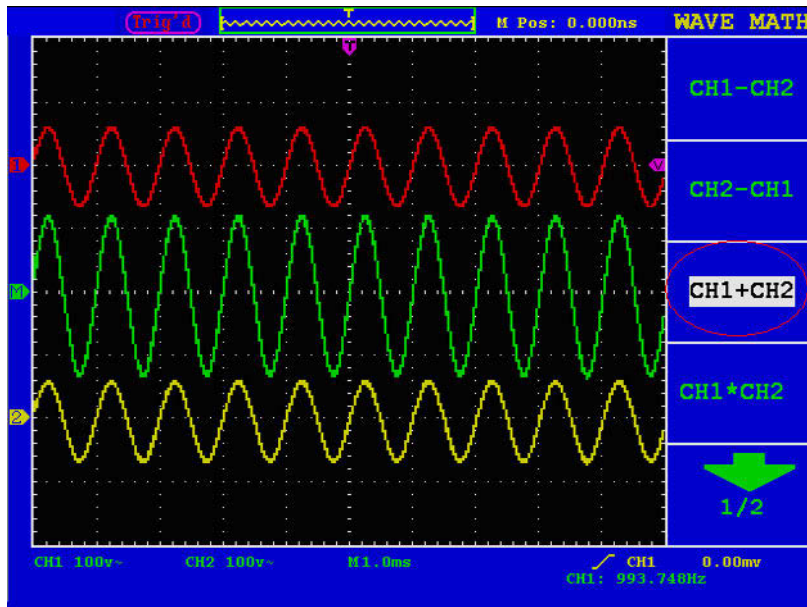

Figure 28. Waveform resulted from CH1 +CH2.
- 2 Press the **F3** menu selection button and choose **CH1+CH2**. The green calculated wave form M is displayed in the screen; press the **F3** menu selection button again, the wave form M is closed off (see Figure 28).